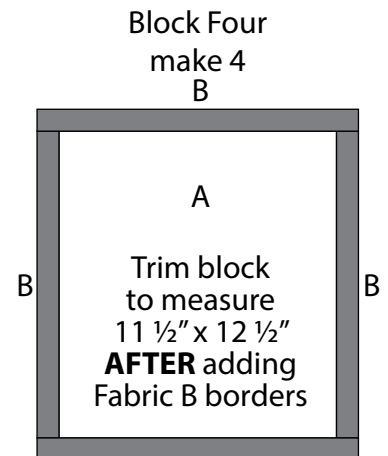

Fig. 12 B
18. Sew (1) 2" x 11" Fabric B strip to each side of (1) 10" x 11" Fabric A rectangle. Sew (1) 2" x 13" Fabric B strip to the top and to the bottom of the Fabric A rectangle to make (1) Block Four rectangle (Fig. 12). **Trim the block to measure 11 ½" x 12 ½"**. Repeat to make (4) Block Four rectangles total.